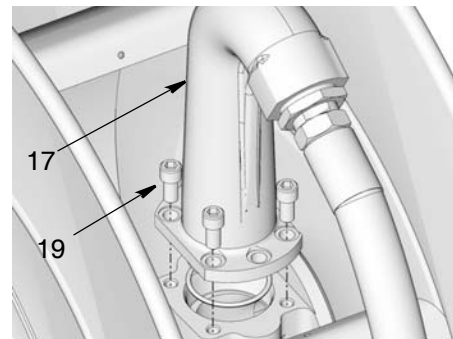

FIG. 36
6. Reinstall outlet (17) to spool. Replace and tighten bolts (19) securely. Torque bolts to 24 to 30 ft. pounds (32.54 to 40.67 N.m) (FIG. 36).